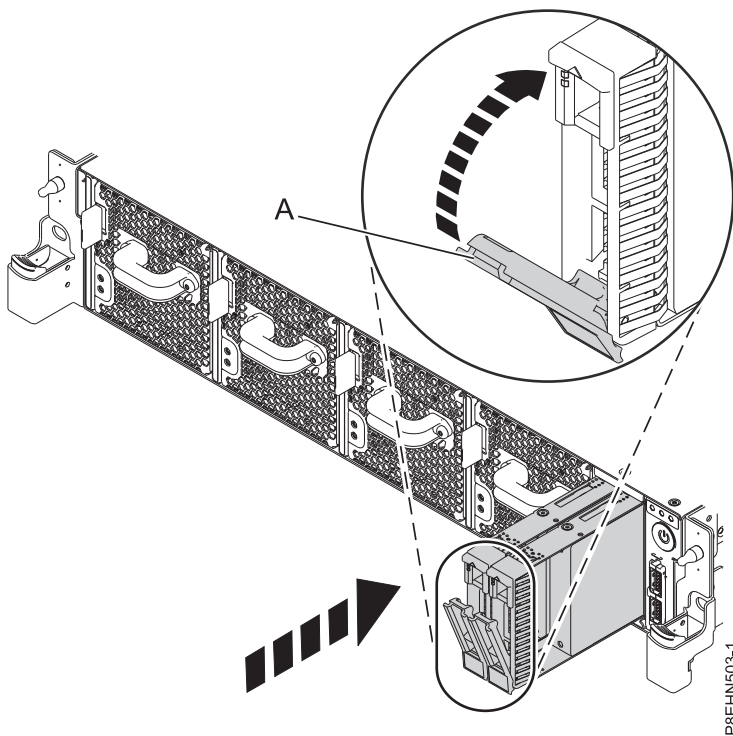

Figure 24. Locking the drive bay handle
3. Lock the drive bay handle (A) by pushing in the handle release. See Figure 24.
5. Slide the drive all the way into the system, and push the drive bay handle (A) in until it locks. See Figure 24 on page 18.